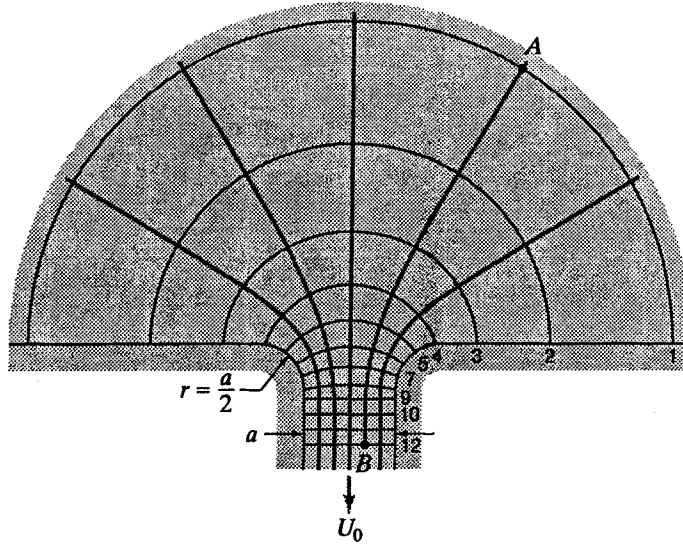

Figure X4.10.2
4.8 Refer to Fig. X4.10.2. If  $a$  is 3 in and  $U_0$  is 10 fps, approximately how long will it take a particle to move from point A to point B on the same streamline? (Note: Between each pair of equipotential lines, measure  $\Delta s$ , and then compute the average velocity and time increment.)